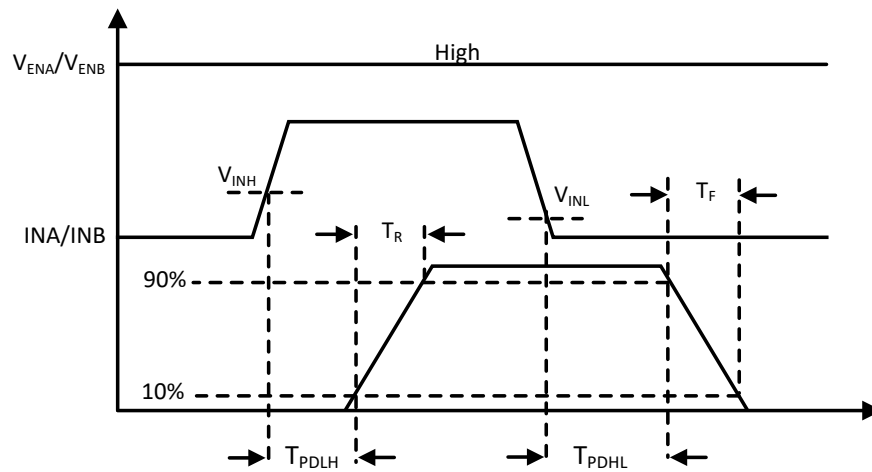
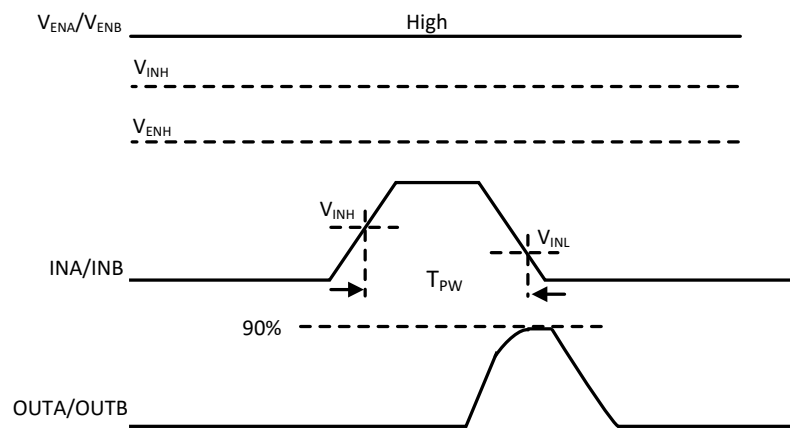
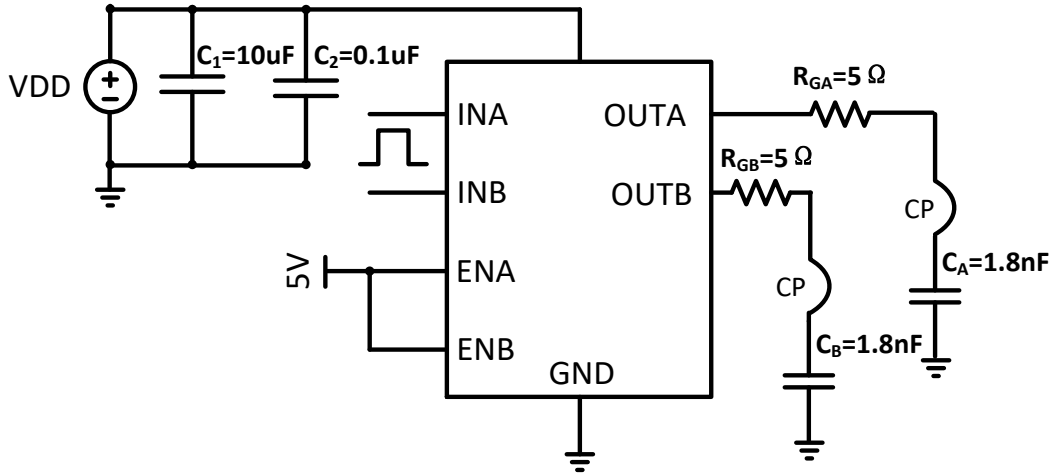

Figure 5.1 Propagation Delay, rise and fall time
Figure 5.2 Minimum input pulse width that changes the output state
Figure 5.3 Test circuit diagram
- 1) See the timing diagrams in Figure 5.1
- 2) See the timing diagrams in Figure 5.2
Figure 5.1 shows the definition of propagation delay, rise and fall time, while the minimum input pulse width that changes the output state in depicted in Figure 5.2. Associated test circuit diagram for specification measurements is shown in Figure 5.3.